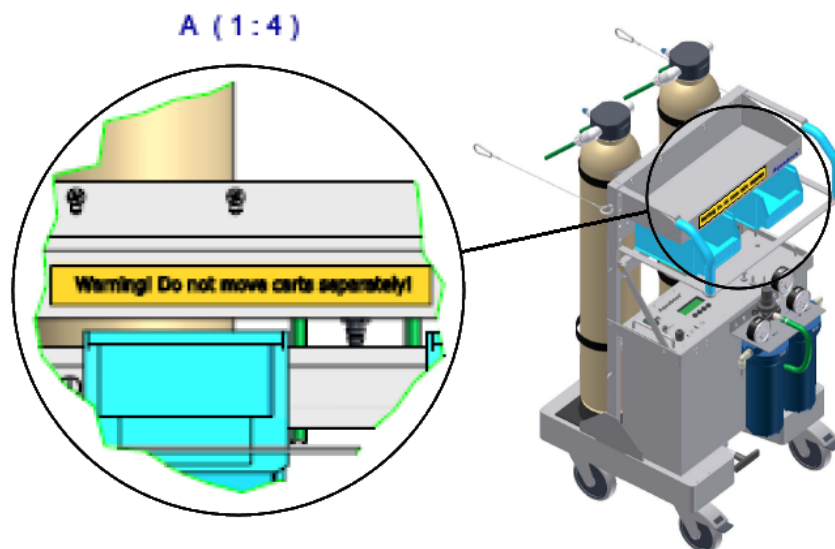

Figure 9 – Position of warning label
8. Attach warning label (see Figure 9)